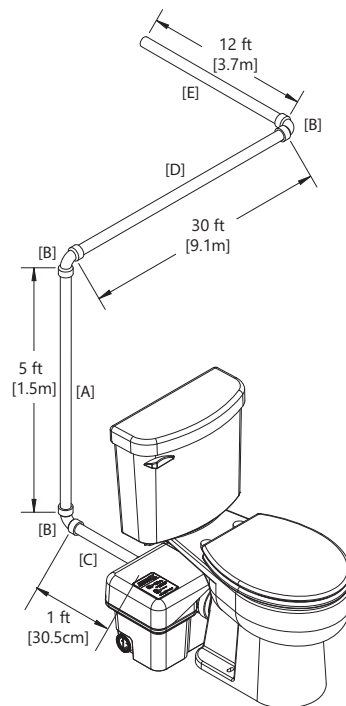

Figure 2. Example Calculations
**For example:** 1" Schedule 40 PVC pipe is used for the discharge and runs horizontally for 1 ft, then turns 90°, and rises 5 ft vertical. Then it travels horizontal with another 90° turn (3 turns in total) and connects with the soil-stack. Refer to Figure 2.